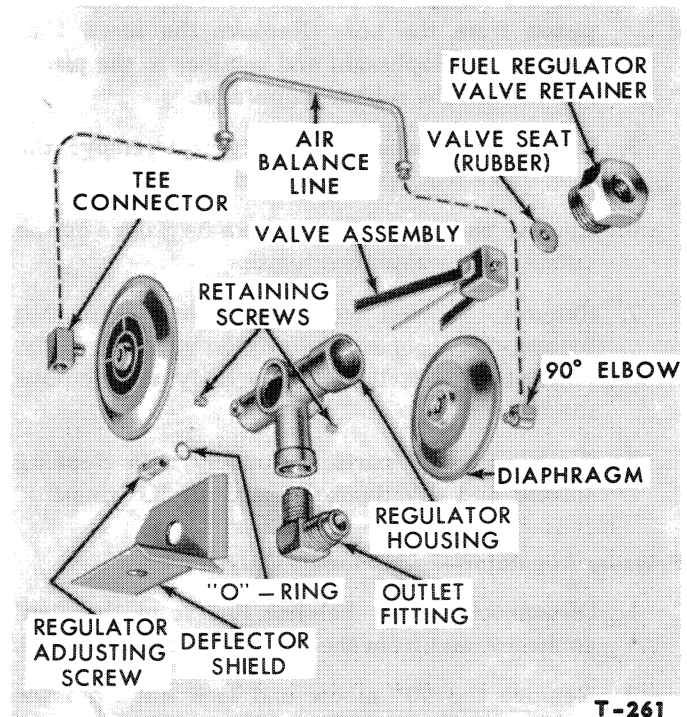

Figure 19—Pressure Regulator Disassembled
1. Disconnect the air balance line from the "tee" connector and from the 90° connector, Figure 19.
1. Install a new valve seat on the valve assembly, Figure 19. Position the assembly into the bore making certain that the two leaf springs enter their respective locating slots at the opposite end of the housing.